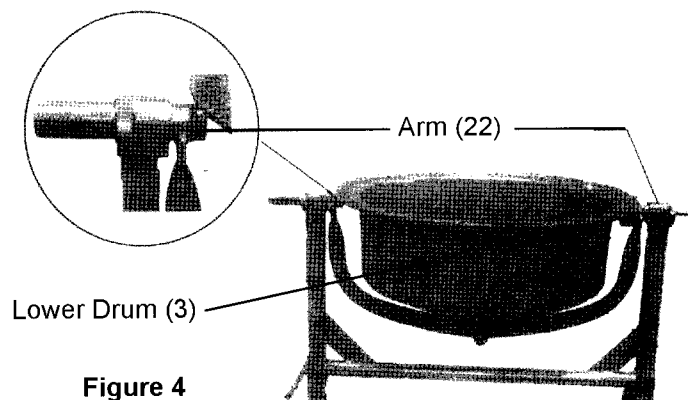

Figure 4
7. With assistance, set the Lower Drum (3) with attached Arm (22) into Stand assembly. See Figure 4.